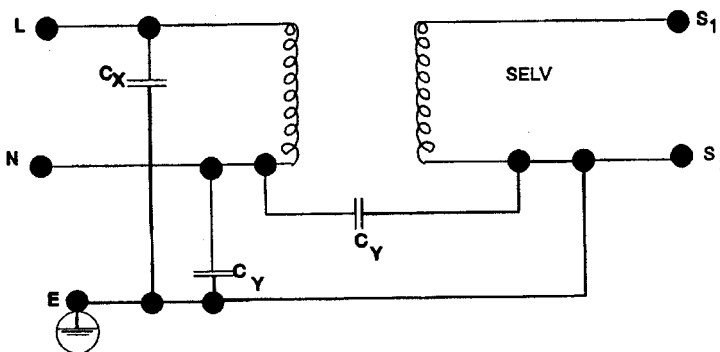

Fig. 2C
- The circuit shown in Fig 2C is acceptable if the ground path is acceptable. The leakage current limit is 3.5 mA.